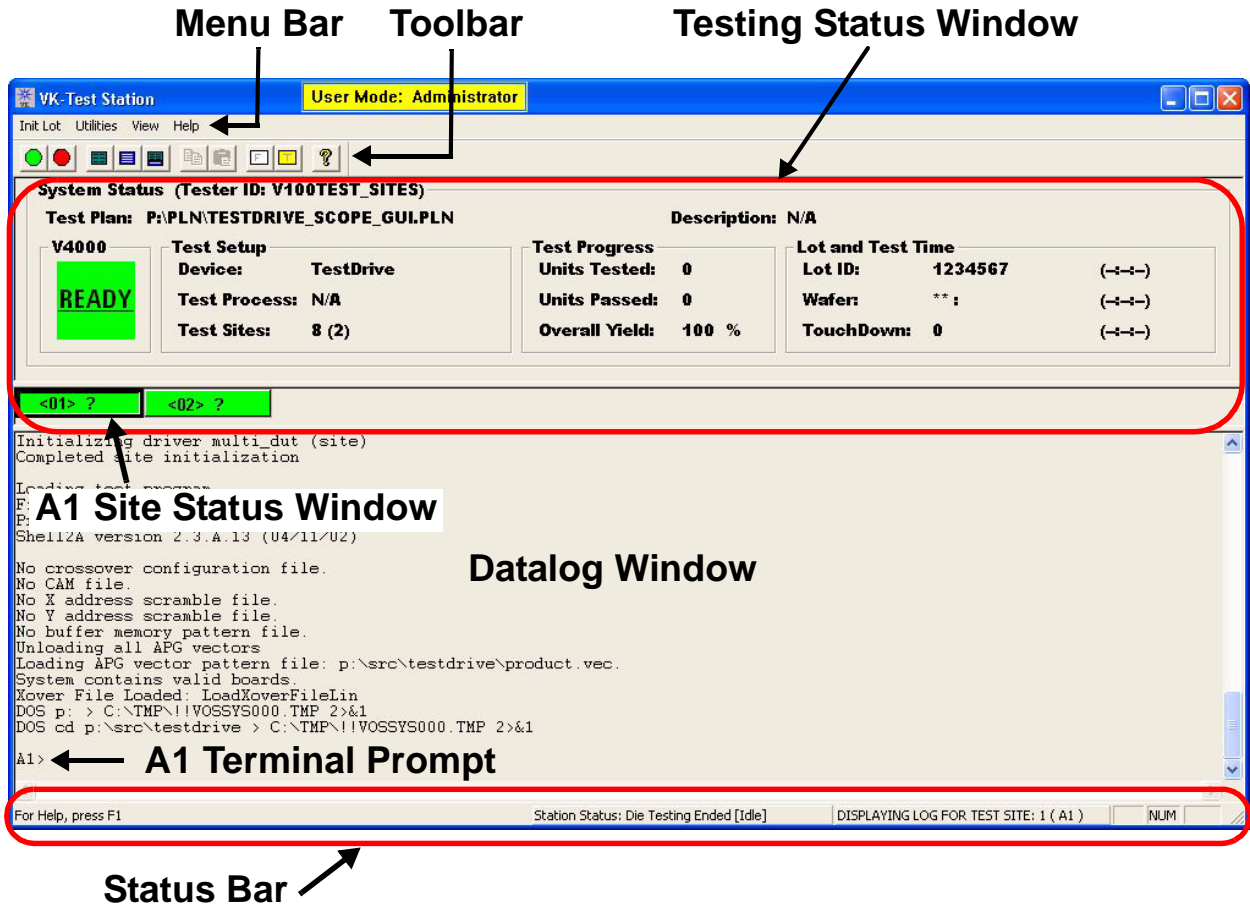

Figure 6-50. VK Test Station Main Window After Power On
- 8 Selecting **OK** begins the test head power on and downloads the Versatest Operating System (VOS) and the test program files specified in the plan file. The power on is complete when the terminal prompt **A1>** displays in the Datalog window (Figure 6-50). Note that the Status Bar displays **Station Status: Ready DISPLAYING LOG FOR TEST SITE: 1 (A1)** that indicates the test sites are powered on and ready to run the downloaded test program.